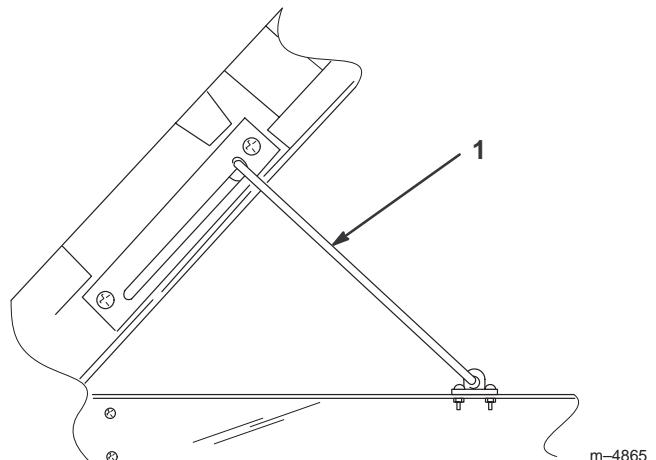

Figure 12
- Raise the bed to its full height; then lower it slightly to engage the prop rod (Fig. 12).